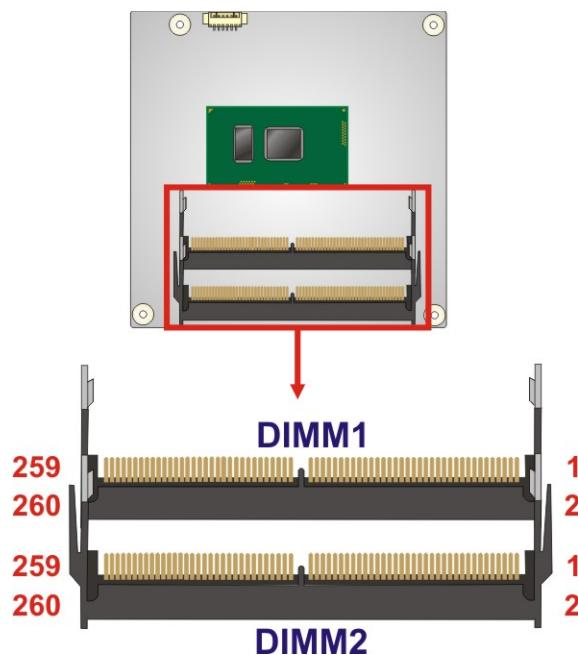

Figure 3-5: SO-DIMM Connector Locations
**CN Location:** See **Figure 3-5**